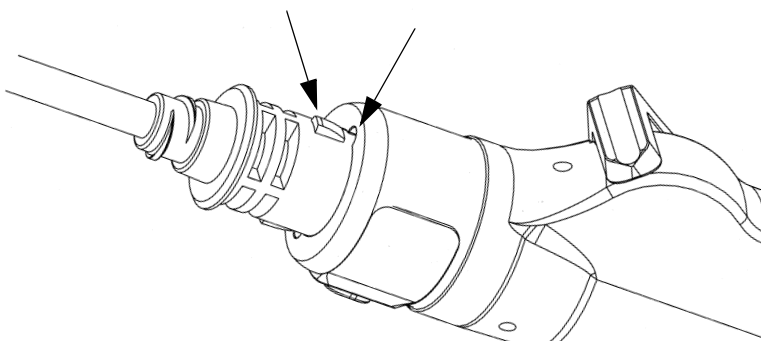

Figure 3: Aligning the locking guides
1. Align the locking guides on the base of the shaver blade with the locking guides on the handpiece (see Figure 3).